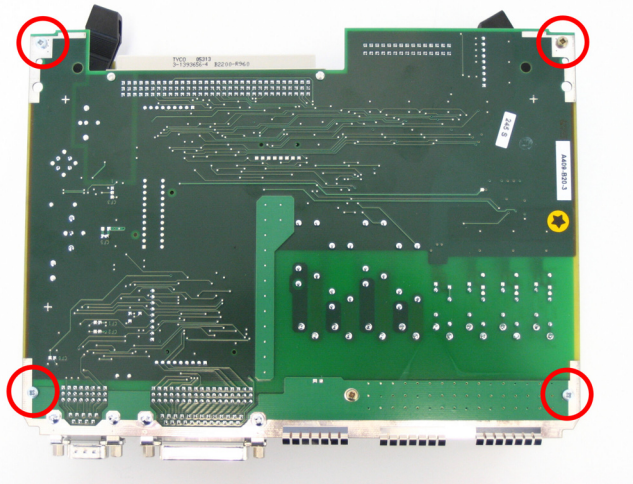

Figure 1-8 Fastening screws of the CPU module
- Remove the board by loosening these four screws (see Figure 1-8).